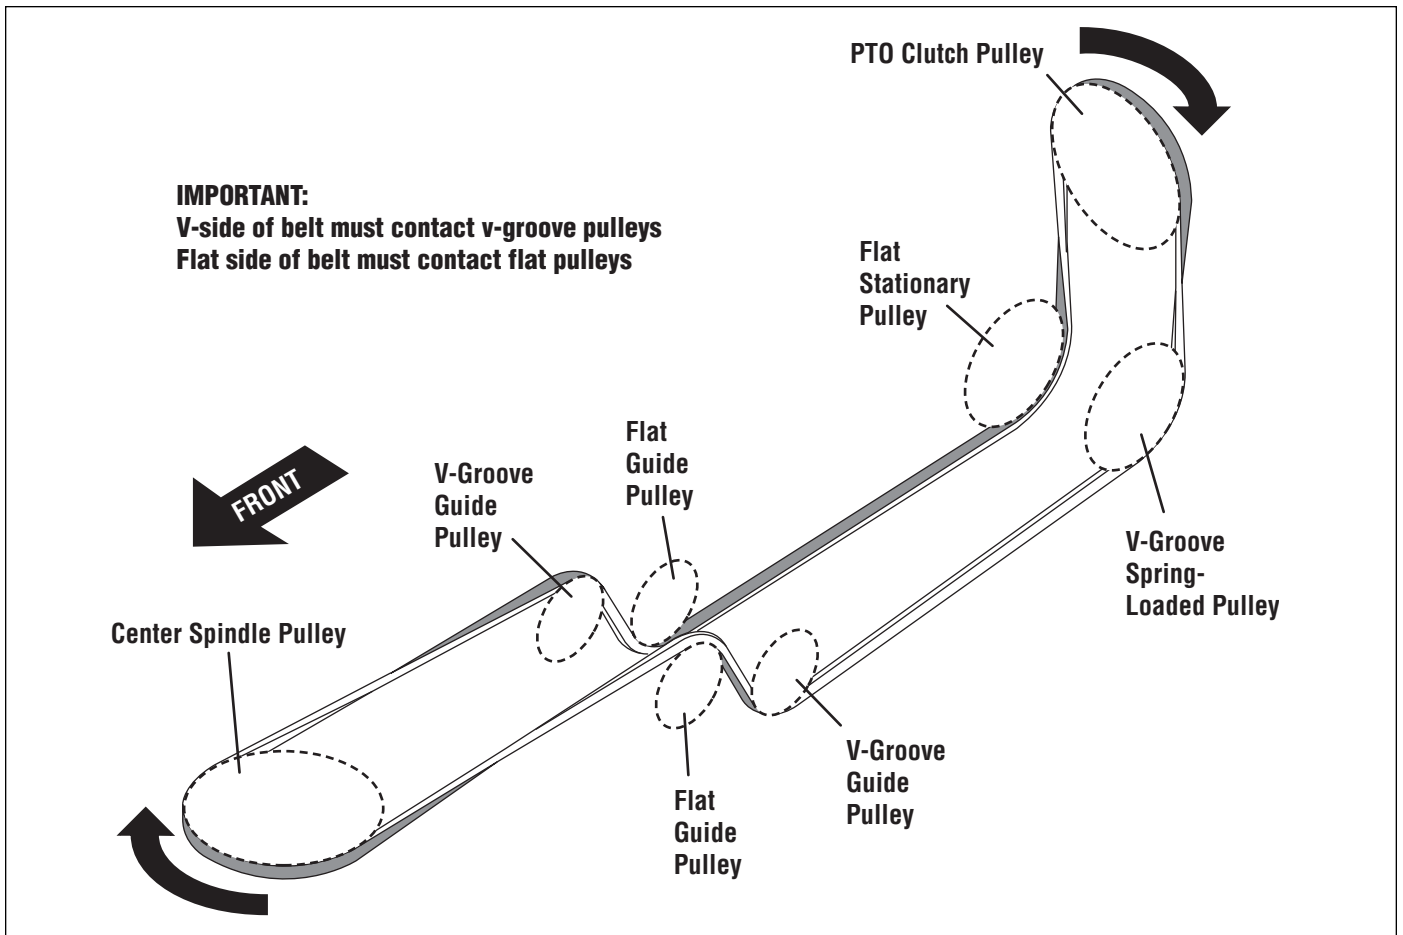

Figure 20. PTO Drive Belt Routing
3. Make sure the belt is routed exactly as shown in Figure 20.
6. Follow the illustration in Figure 20 carefully and make sure the belt twists in the correct direction.